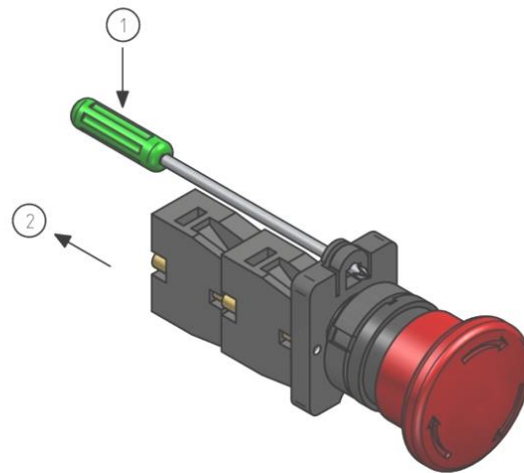
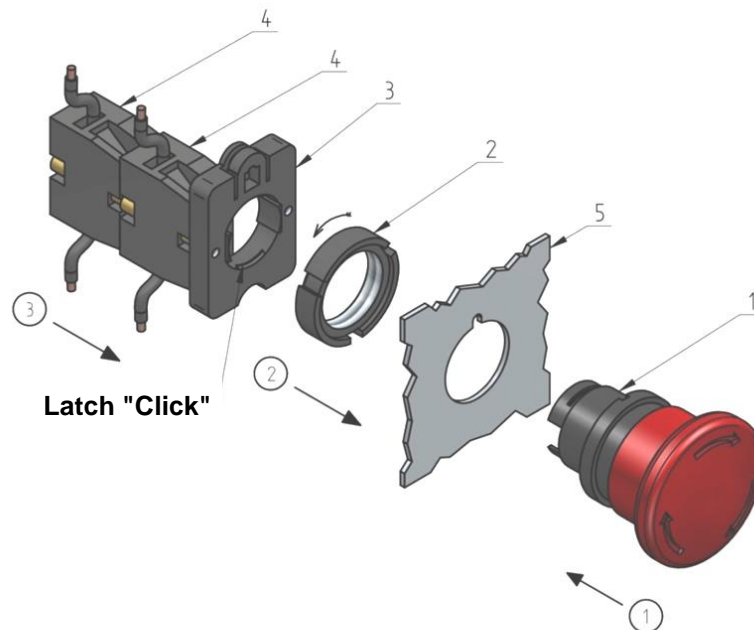

Fig.1 AES safety button disassembly
Fig.2 AES safety button assembly before the first operation
- 5.5) Connect the electrical connection (elements 3, 4) to the button (towards '3' direction) - fig. 2.
6) Install **LOVATO** safety button in accordance with the following instructions and Fig.1, Fig.2: